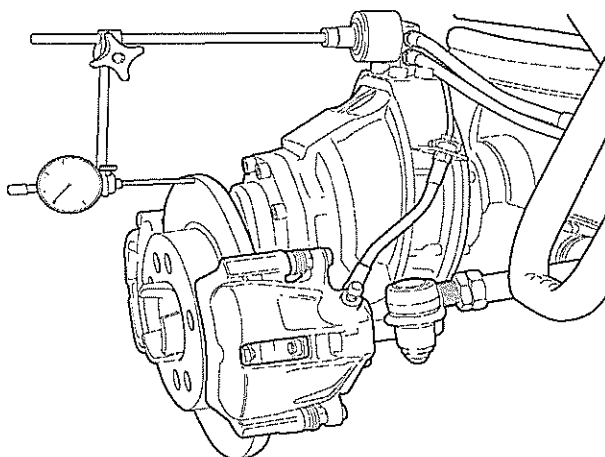

Fig 19 Measuring wheel bearing axial clearance
16.6 Re-arrange magnetic support with dial gauge 1/100 and determine axial play of wheel bearing by pressing in and pulling out brake disc (see Fig 19).